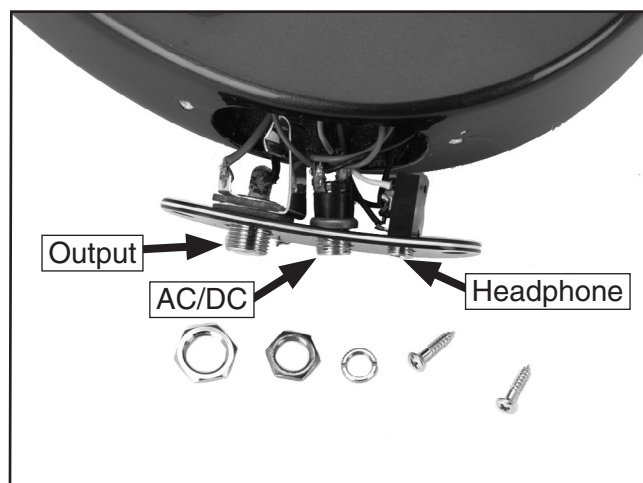

Figure 13. Inserting jacks through jack plate.
3. Insert the headphone, AC/DC, and output jacks through the mortise in the side of the guitar, then through the jack plate (**Figure 13**).